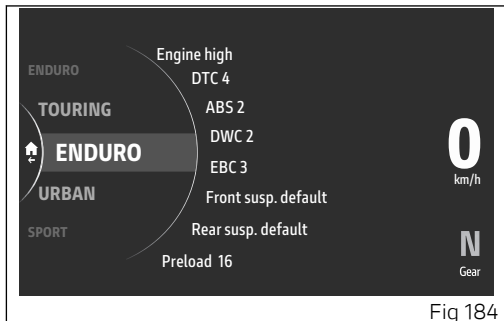

Fig 184
- System opens the specific page (Fig 184) from which it is possible to scroll the available Riding Mode and view their parameters, together with the relevant settings, by means of joystick ▲ ▼.